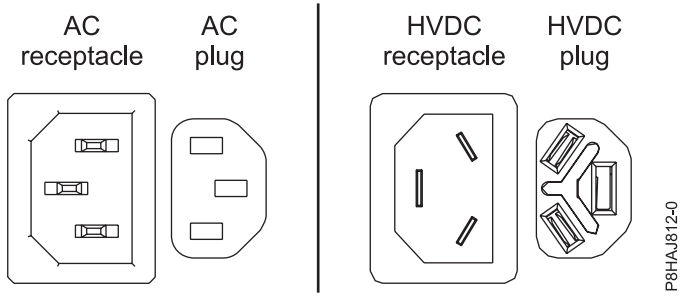
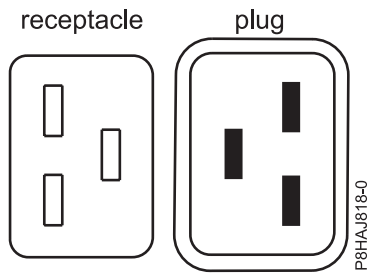
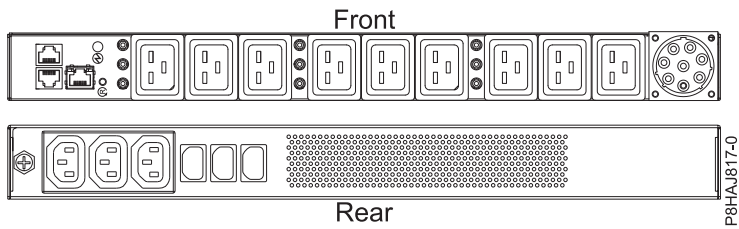

Figure 15. AC and HVDC connectors
Figure 16. Connectors for the 8408-44E system
Figure 17. PDU for the 8408-44E system
Figure 15 on page 41 shows the supported alternate current (AC) and high voltage direct current (HVDC) connectors. Figure 16 on page 41 and Figure 17 on page 41 show the supported connectors and power distribution unit (PDU) for 8408-44E.